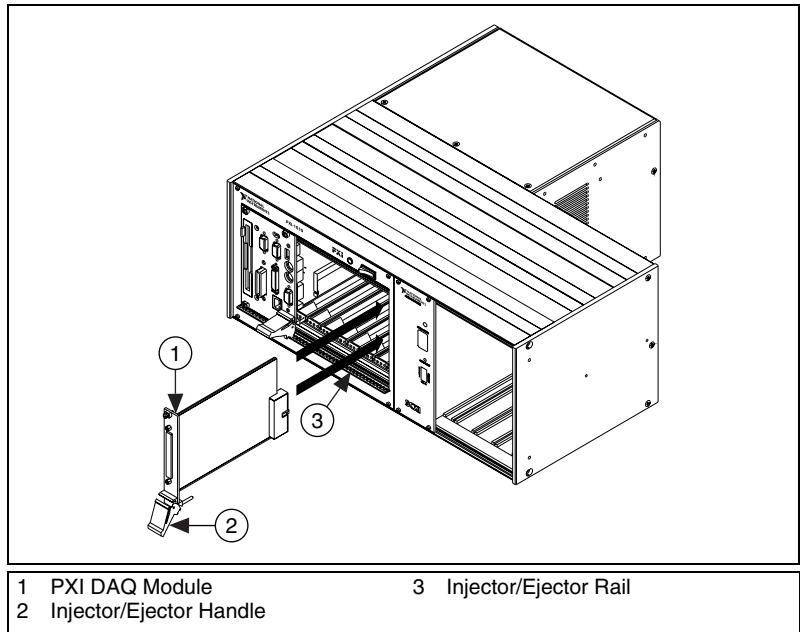

Figure 6. Installing the PXI Module in a New Chassis
2. Place the module edges into the top and bottom PXI module guides, as shown in Figure 6.